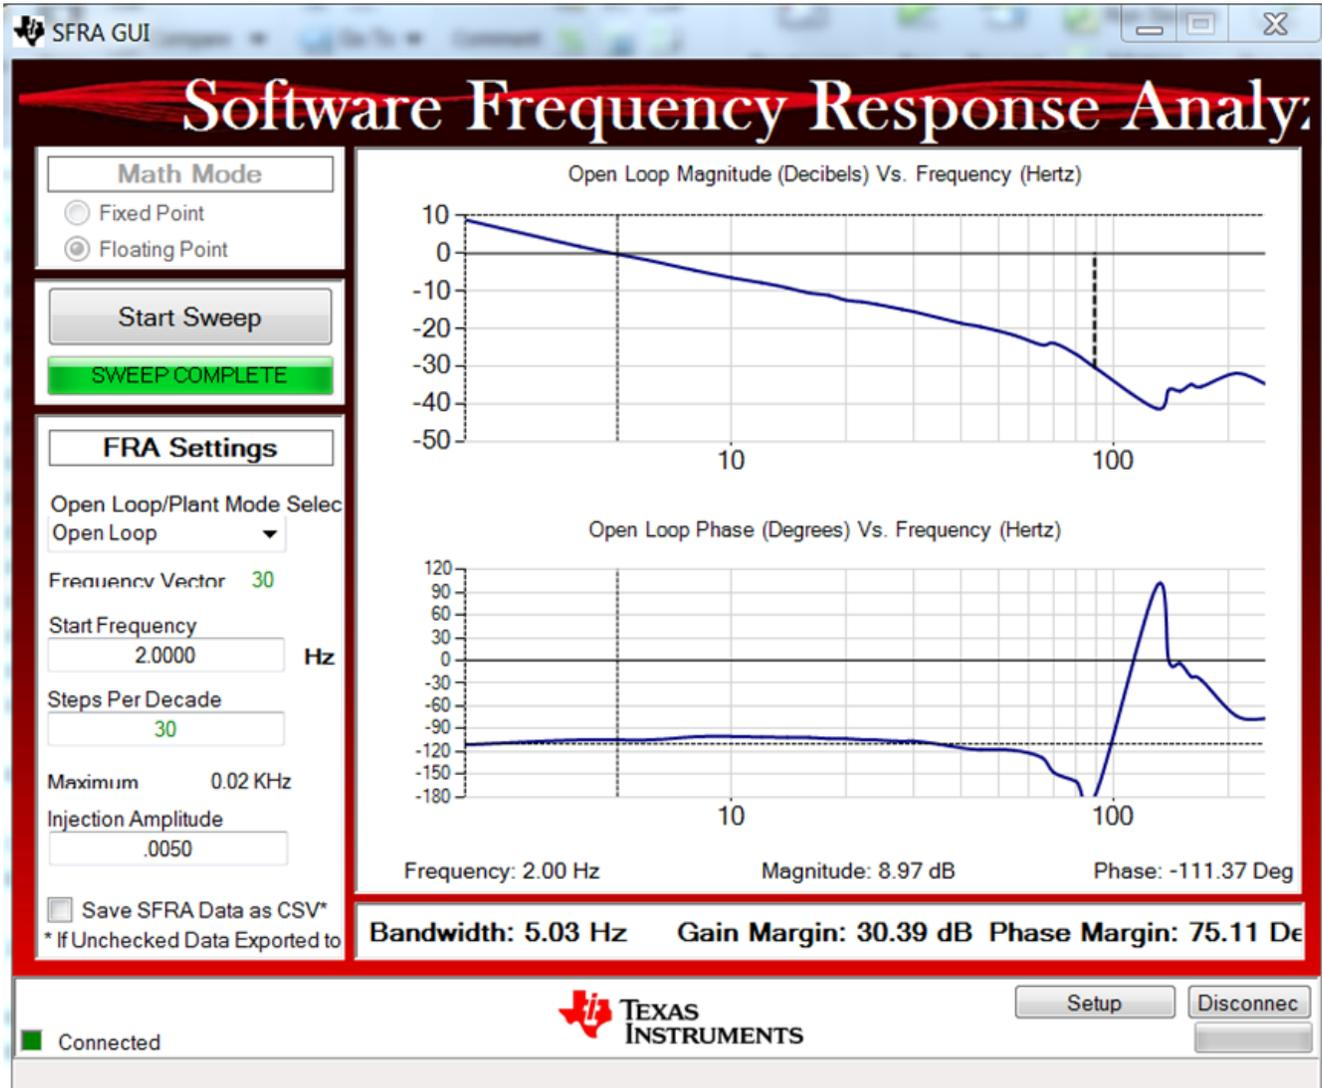

Figure 3-29. SFRA Run on Closed Voltage Loop
- The SFRA GUI connects to the device. A SFRA sweep can now be started by clicking *Start Sweep*. The complete SFRA sweep takes a few minutes to finish. Activity can be monitored by seeing the progress bar on the SFRA GUI and checking the flashing of blue LED on the back on the control card that indicates UART activity. Once complete, a graph with the open loop plot appears, as seen in Figure 3-29. This action verifies that the designed compensator is indeed stable.